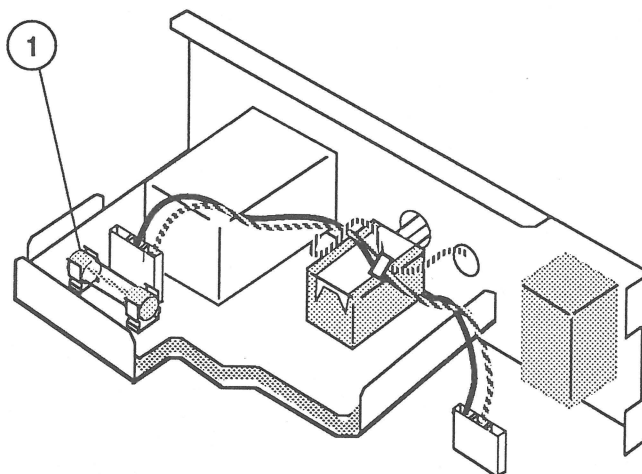

FIGURE 11
6. Remove the fuse (Figure 11, #1). Gently pry up one end of the fuse with your fingers or a flat-blade screwdriver and lift the fuse out.
1. Carefully snap the new fuse (Figure 11, #1) into the fuse holder with your fingers.